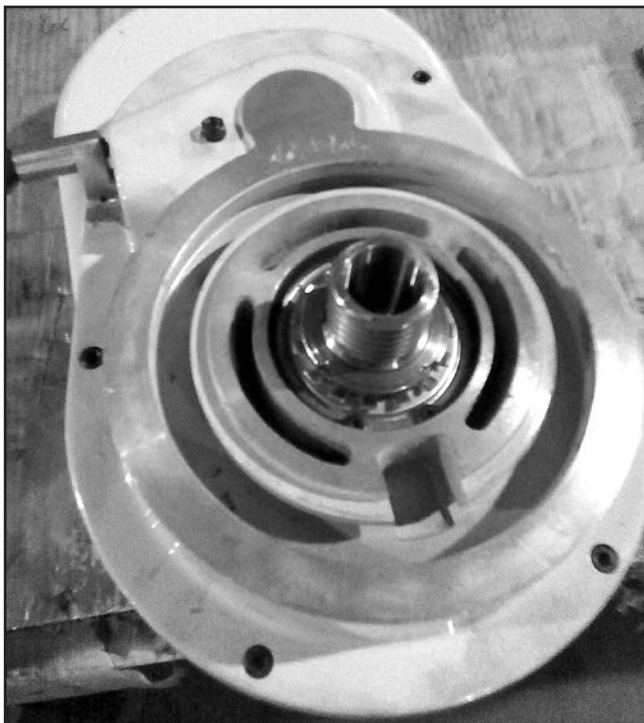

Figure 94. Belt housing placed upside down on workbench.
- With upper housing removed (see **Figure 94**), you can now separate gear housing from belt housing.